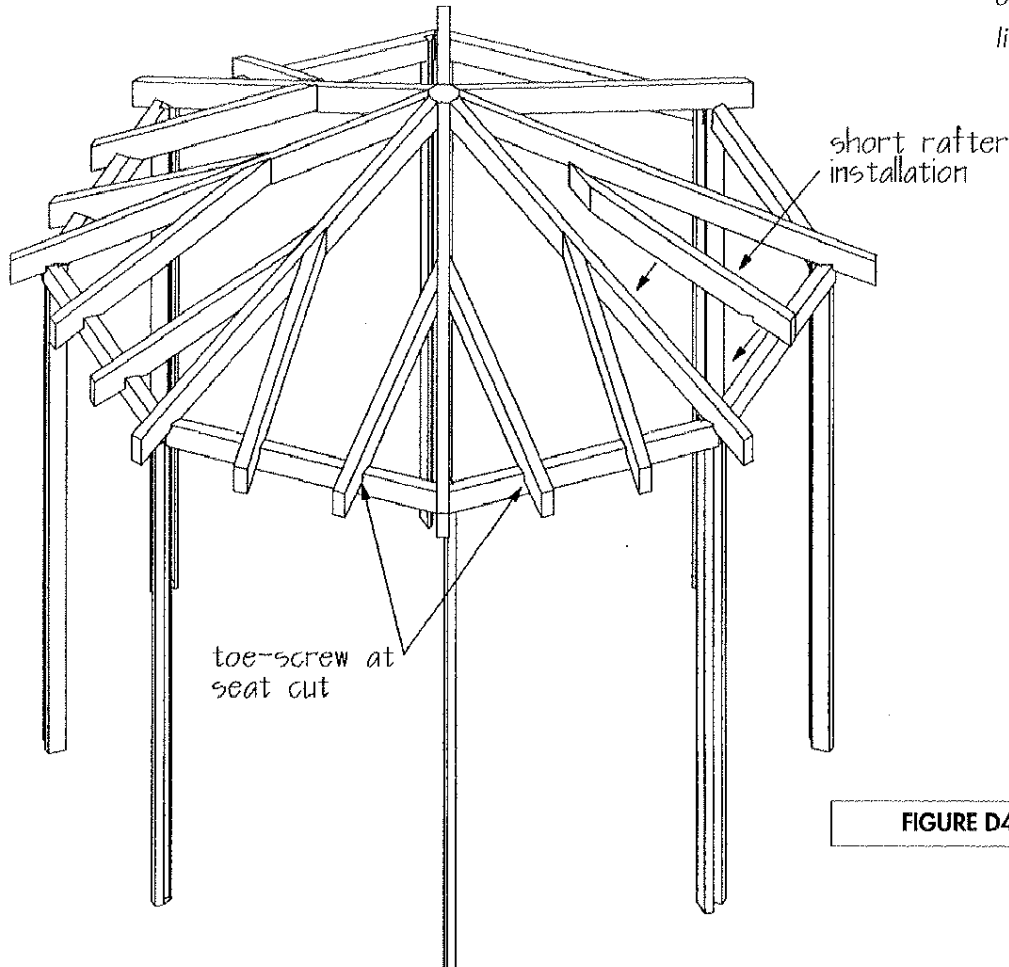

FIGURE D4
- Install the short roof rafters using a similar procedure as for the long roof rafters. Using two 3" screws, toe-nail the short roof rafter to the adjoining long roof rafters. Using two 3" screws, fasten the short roof rafter to the header [see **Figure D4**]. Continue until all short roof rafters are fastened into place.